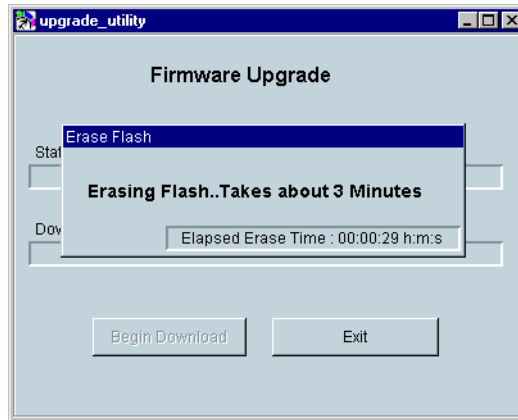

Figure 6-3. Erasing Flash
- Open the selected code file, and the window shown in Figure 6-3 is displayed.